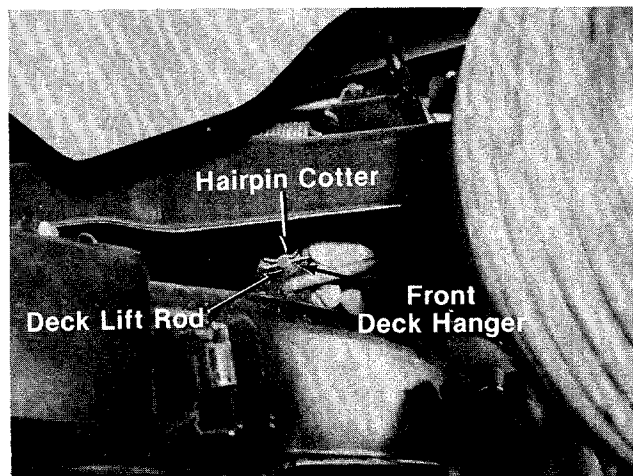

FIGURE 33.
2. Remove hairpin cotter from deck lift rod located at the front deck hanger bracket. See figure 33.